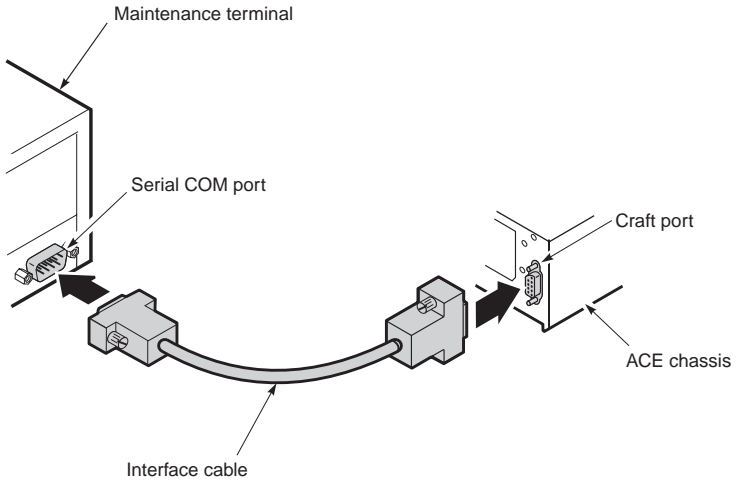

Figure 35. ACE Craft Port (Rear View)
- 6 Remove the serial data cable from the RS-232 craft port located on the front panel of the HXU-358 and connect the cable to the rear of the ACE chassis as shown in Figure 35.